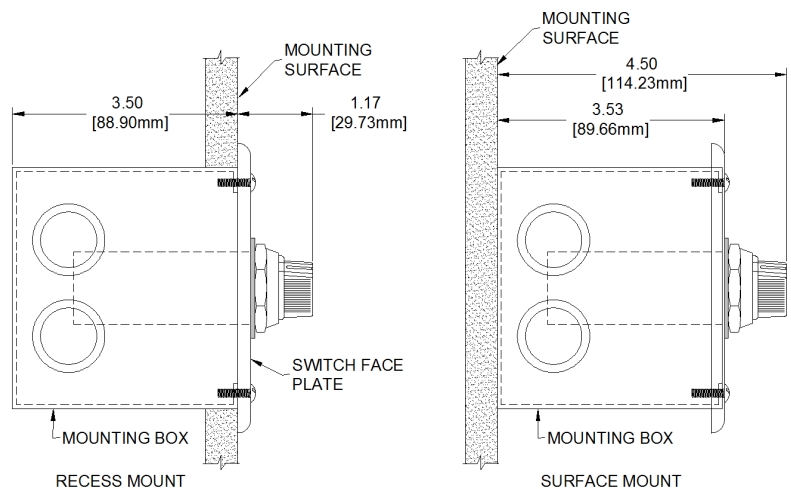

Figure 6 Mounting Options
1. Install mounting box (recess or surface mount), as shown in Figure 6.